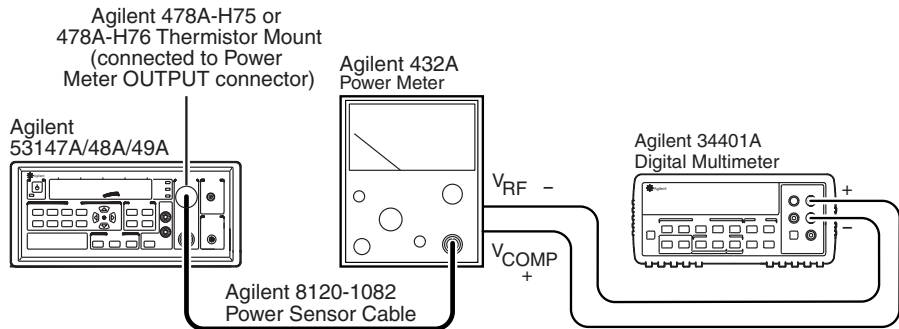

Figure 2-7. Power Meter Reference Level Calibration Setup
- 3 Round off the resistance reading to two decimal places and keep a record of this value as R. It is the internal bridge resistance (R) of the Agilent 432A Power Meter (this should be approximately 200.3 ohms).
- 4 Connect the Agilent 478A-H75 or 478A-H76 Thermistor Mount to the Agilent 53147A/148A/149A Power Meter OUTPUT connector, as shown in Figure 2-7.